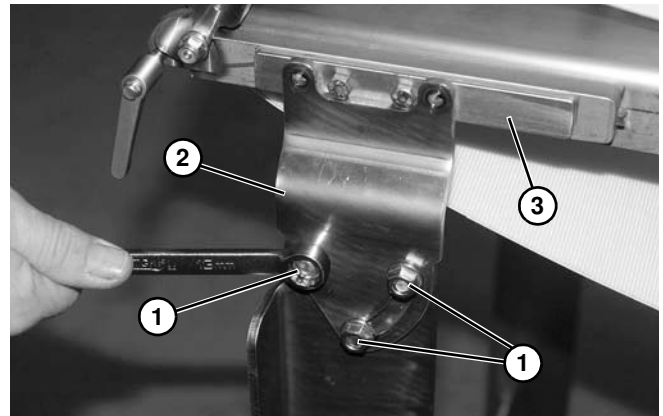

Figure 2
2. Fixed Height Stands: Loosen the three nuts (**Figure 2, item 1**) on stand bracket screws, and adjust bracket (**Figure 2, item 2**) so that the top of bracket is at the same angle as the conveyor (**Figure 2, item 3**).